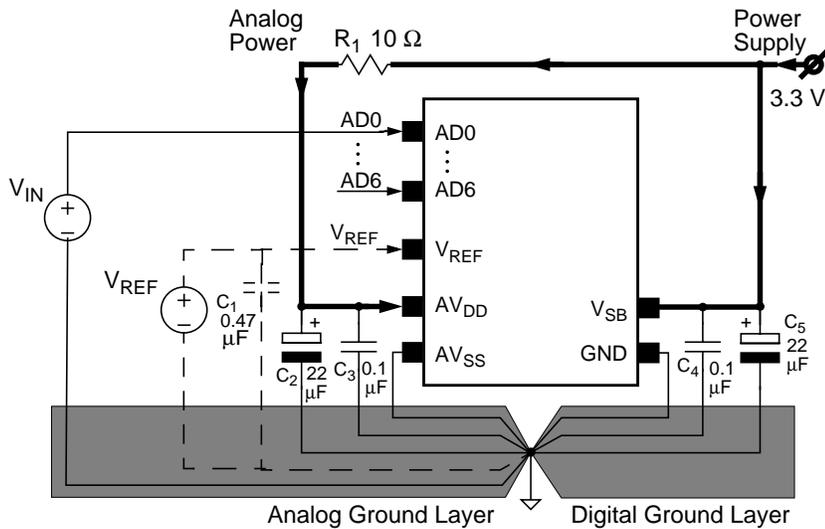

Figure 37. Analog Power Supply
Power is supplied to the analog parts of the A/D Converter through two dedicated analog power pins:  $\text{AV}_{\text{DD}}$  and  $\text{AV}_{\text{SS}}$ . This ensures effective isolation of the analog parts from noise caused by the digital parts. The digital parts of the VLM are supplied via  $\text{V}_{\text{SB}}$ . To obtain the best performance, bear in mind the following recommendations (see also details in Figure 37).
**Power Connection.** The analog supply pin,  $\text{AV}_{\text{DD}}$ , should be connected to a low noise power supply, 3.3V. It is recommended to supply the  $\text{AV}_{\text{DD}}$  pin through an external LC or RC filter. An example of an RC filter [ $\text{R}_1$  and  $(\text{C}_2+\text{C}_3)$ ] is shown in Figure 37.